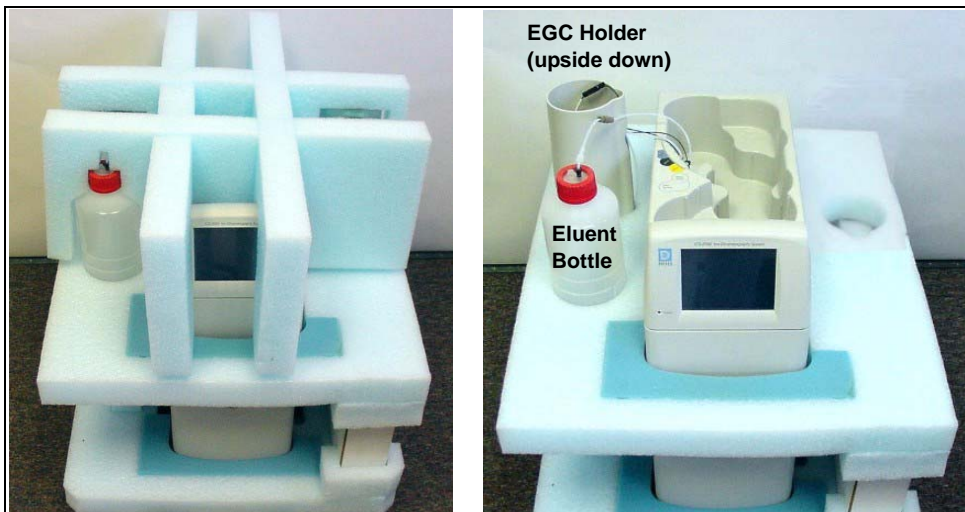

Figure 1. Unpacking the ICS-2000
1. After removing the ICS-2000 from the shipping box and removing the top layer of foam, remove the next layer of foam (see Figure 1).